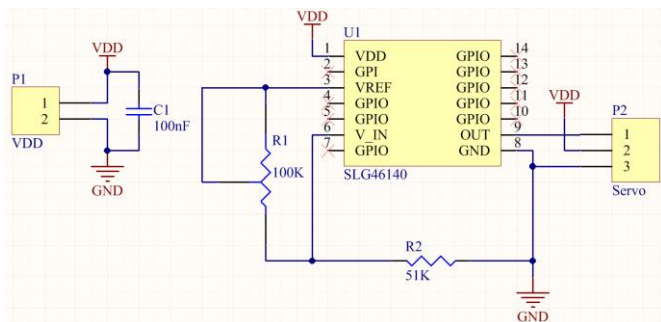

Fig. 2. Servo Control typical application
This servo can rotate approximately 180 degrees (90 in each direction), and works just like a standard radio control (RC) model servo. This design will be useful for those wanting simple functionality in a compact space, and not needing the overhead of a microcontroller and dedicated motor controller. Typical with RC servos, the position is determined by PWM. The middle position "0" ~1.5 ms pulse width. The right most position "90" ~2.5 ms, and the most left position "-90" ~0.5 ms. The application circuit of this servomotor design is shown in Fig. 2.